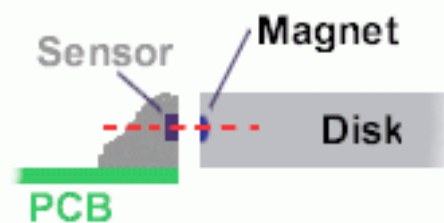

Figure 7 Ensure correct alignment of magnet disk and sensor.
- Take care that the magnets in the disk are approximately in the same height as the sensor, see figure 7 on page 9.